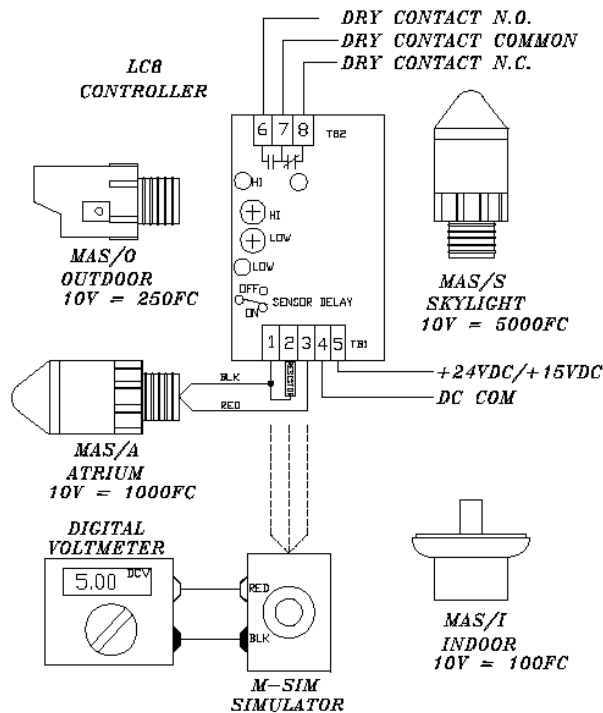

Figure 2: LC8 w/ MAS Sensor and M-Simulator (Use of PCRK Required)
MAS sensor has two (2) wires. Using the MAS sensor with the LC8 requires the PC Replacement Kit (PCRK). Please consult the PCRK Installation and Maintenance Manual for further clarification. The Black wire should be connected to Terminal 2 and the Red wire should be connected to Terminal 3 (see Figure 2).